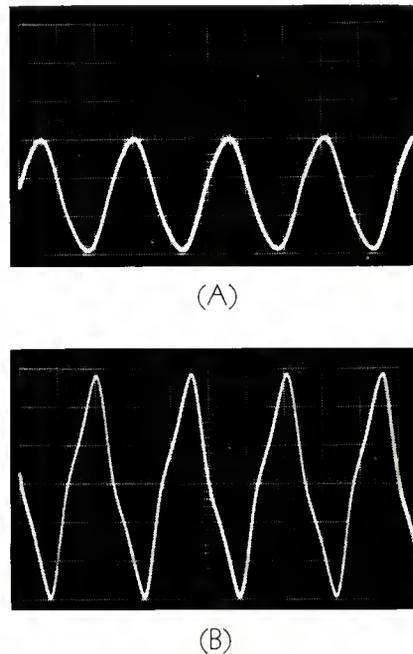

Figure 4. (A) The output waveform below maximum power capability is shown above; (B) the output waveform when the core is in saturation is below.
An important limitation on transformer operation is the allowable maximum power level. FIGURE 4(A) shows the output waveform of an audio transformer in the mid-band at a level below its maximum capability. When the power level of the transformer is exceeded, the core will saturate and cause distortion. For a given power level the flux density increases proportionally as the frequency decreases, so that core saturation is more of a problem at the low end of the transformer pass band. FIGURE 4(B) shows the output waveform of the same transformer when the core is driven into saturation, and severe waveform distortion is evident.